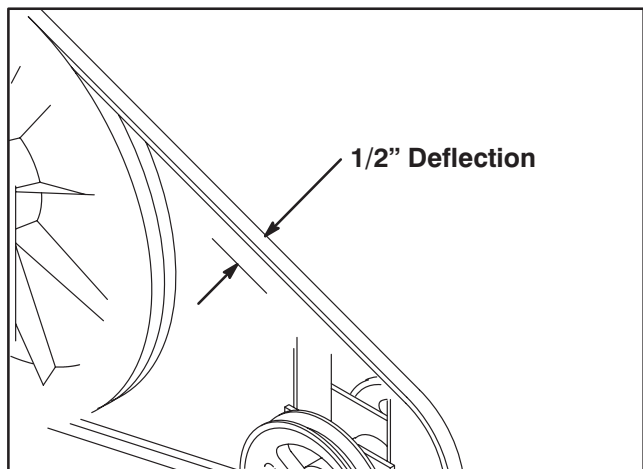

Figure 11
Proper belt tension and pulley alignment must be maintained for maximum drive efficiency and belt life. The correct tension exists if a deflection of 1/2" occurs by placing 10 lb. of force midway between the jackshaft pulley and the pump flywheel (Fig. 11). Loosen (4) capscrews securing pump base to pressure washer frame. Tension belt by adjusting nut on tensioner. After desired belt tension is attained, tighten capscrews.